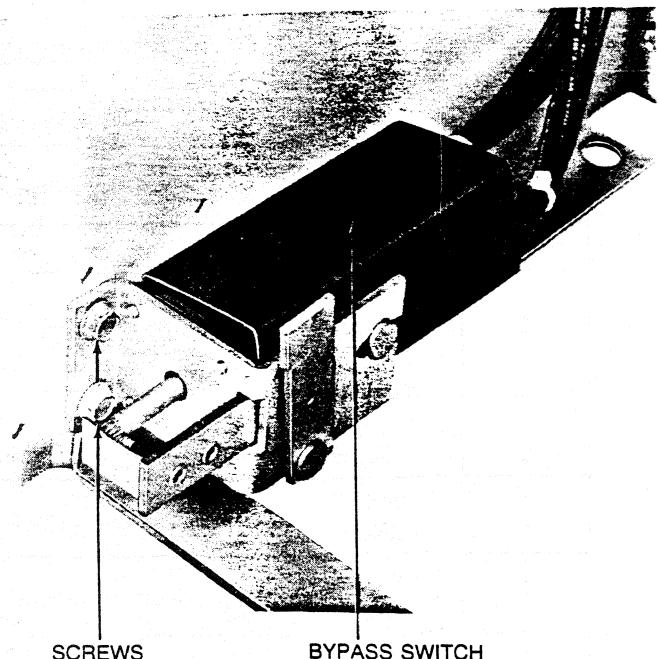

Figure 13
3. Fasten with the two 1/4" thread forming screws and torque to 80-90 inch-lbs as shown in Fig. 13.